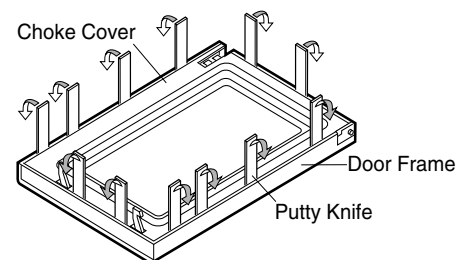

Figure C-4. Door Disassembly
- Insert a putty knife (thickness of about 0.5mm) into the gap between the choke cover and door frame as shown in Figure C-4 to free engaging parts.
- Pry the choke cover by inserting a putty knife as shown in Figure C-4.